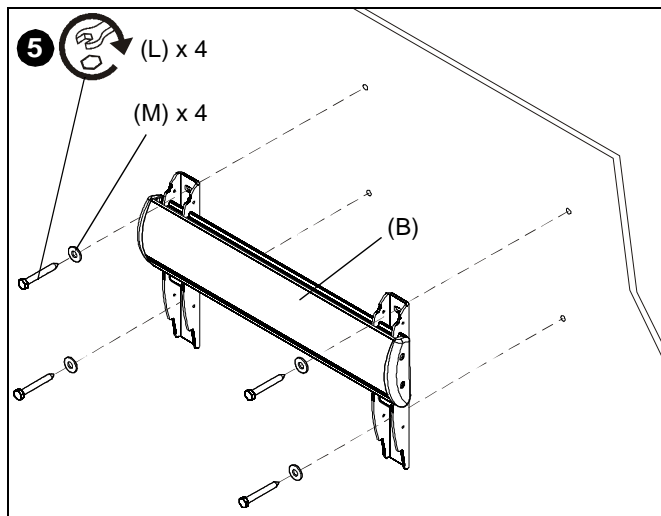

Figure 7
5. Install four 5/16 x 2-1/2" hex head lag screws (L) through four 5/16" washers (M), holes of wall bracket and into drilled holes. (See Figure 7)